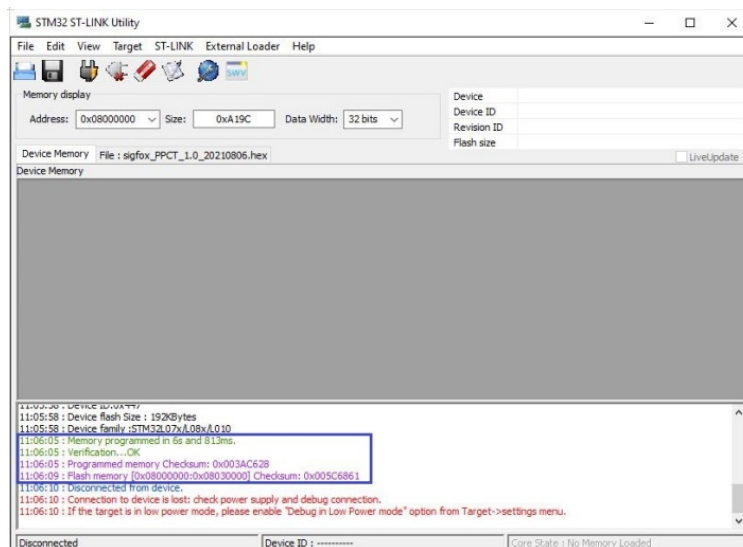

Figure 6. Successfully loading firmware
- ✔ When the firmware is successfully loaded, the software will display information with figure 6